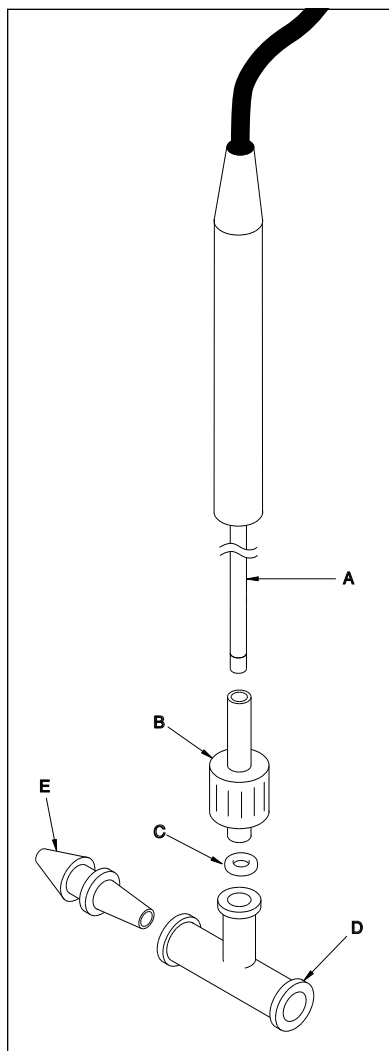

Figure 1
- 1.** Pass the stainless steel sleeve of the probe (Fig. 1,A) through the male Luer lock adapter (B).
- 2.** Mount "O" ring (C) gently onto stainless steel sleeve (A), about 5 mm from tip.
- 3.** Insert the stainless steel sleeve (A) into Tee Luer fitting (D). As it is inserted, the bottom of the Luer lock adapter (B) will push the "O" ring (C) into